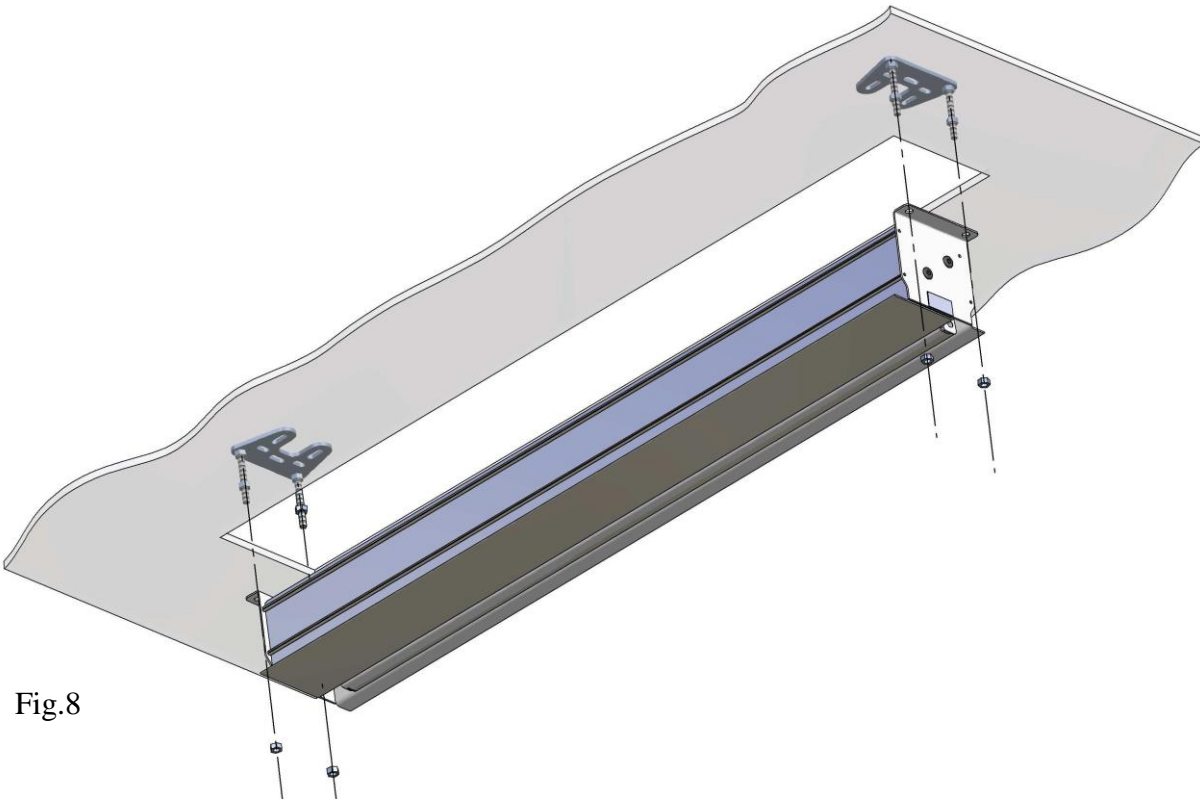

Fig.8
10. After connecting the power supply (see page no.15) slide the screen onto the mounted rods and screw each of the 4 M8 nuts using the included pipe wrench while checking the stability of the entire installation (**Fig.8**). A properly installed screen must be levelled. Correct the fixing by unscrewing or screwing the mounting nuts on the appropriate threaded rods.